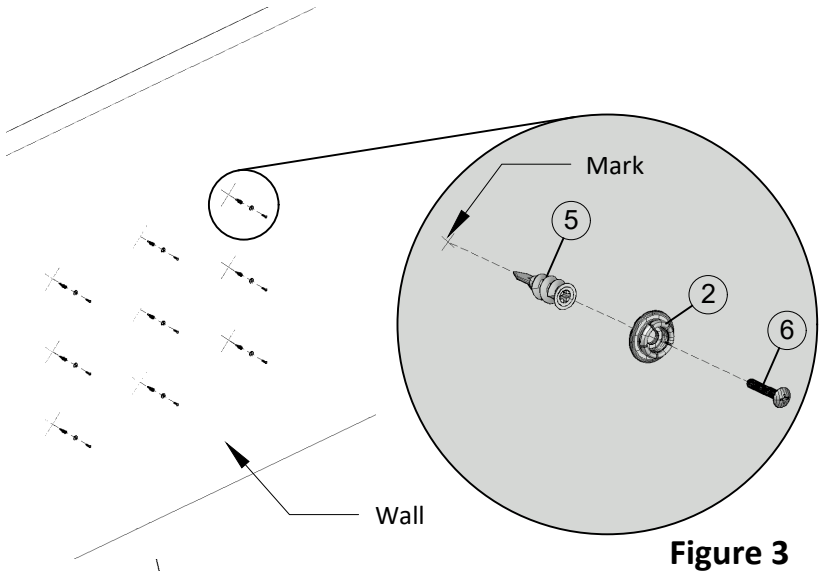

Figure 3
- 4. Install the Male Clips, secure them to the wall using Drilling Anchors and #8 x 1 5/8" Pan Head Screws, as illustrated in Figure 3.